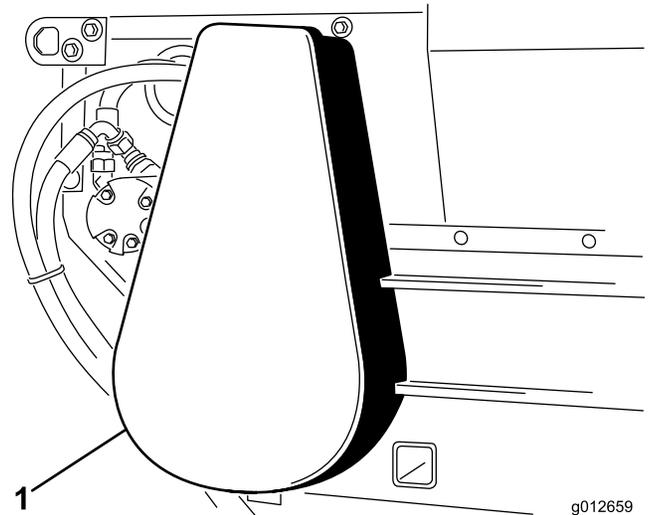

Figure 14
1. Remove the chain cover (Figure 14).